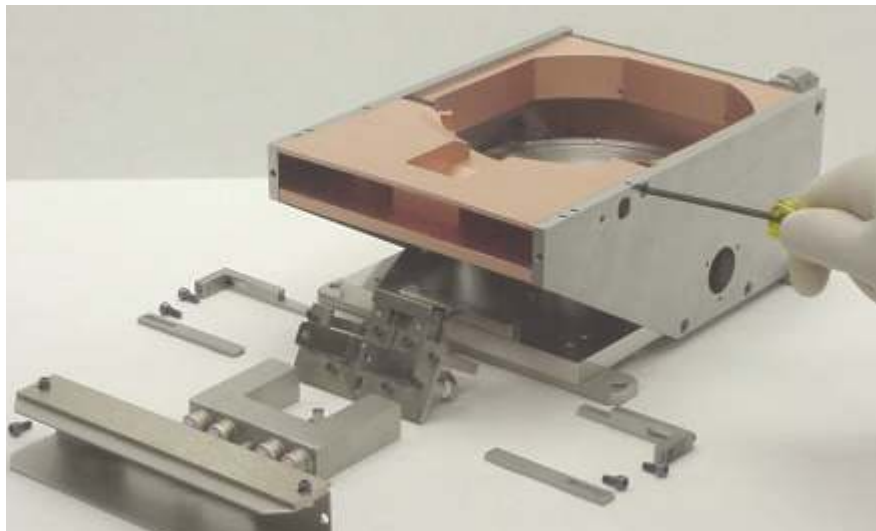

Figure 5-8. Removing the screws that secure the coil housing to the pole pieces
- Step 18. Remove the screws that secure the left-hand pole piece to the coil housing and loosen the screws that secure that pole piece to the source base plate (see Figure 5-8).